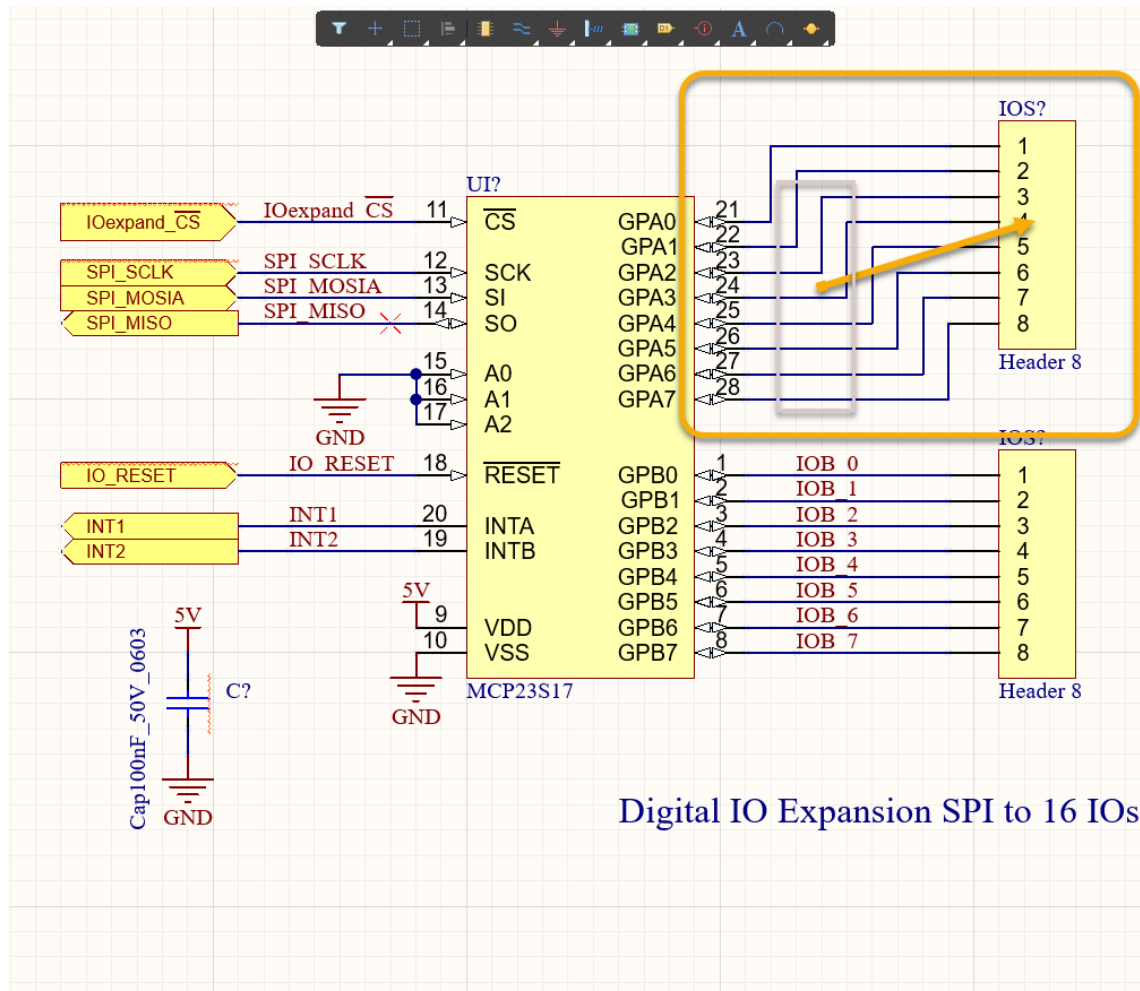

Figure 33. Auto-Generated wires when pulling the header away
52. Drag Header 8 away from MCP23S17 to create wire connections between the pins automatically, as shown in Figure 33 below.